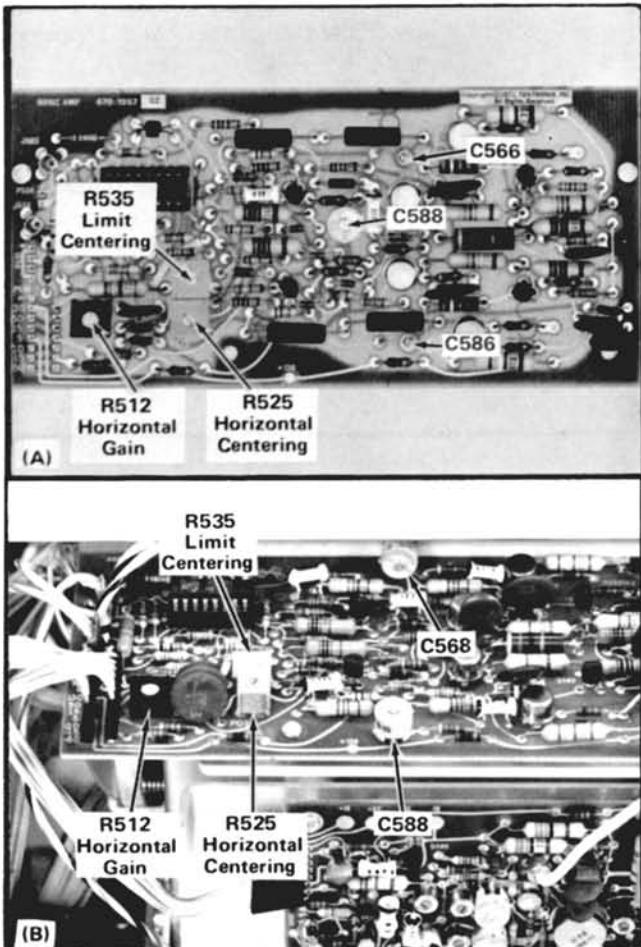

Fig. 2-6. Location of Horizontal adjustments (Horizontal Amplifier board (A) SNB020000-up; (B) Below SNB020000.
h. ADJUST-Limit Centering adjustment R535 (see Fig. 2-6) to match the DC levels of both waveforms.
c. ADJUST-Horizontal Centering adjustment R525 (see Fig. 2-6) to position the spot to the vertical center line.
f. ADJUST—Horizontal Gain adjustment R512 (see Fig. 2-6) for exactly eight divisions of deflection between the second and eighth traces.